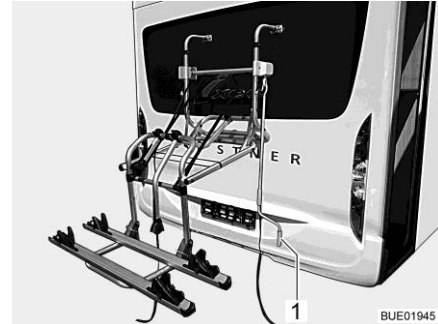

Fig. 3 Bike rack, lowered
- Attach the hand crank (Fig. 3,1) to the bike rack and lower the bike rack to gripping height.